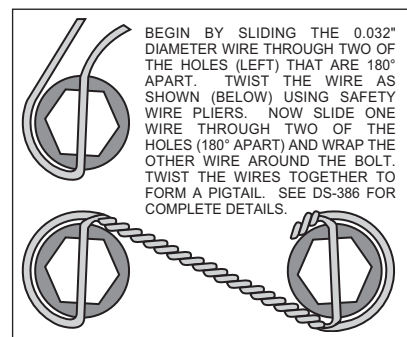

Figure 3. Safety Wire Diagram
- Pack the large inner bearing cone (5) with high temperature disc brake bearing grease (available from your local auto parts store) and install into the backside of the hub (4).
- Install the grease seal (6) by pressing into the backside of the hub (4).
- Attach rotor adapter (7) to rotor (8) using six bolts (9). Torque bolts (9) to 180 in-lb. Safety wire bolts (9) using standard 0.032 inch diameter stainless steel safety wire as shown in Figure 3. Please refer to Wilwood's data sheet DS-386 (available at [www.wilwood.org/ds386.pdf](http://www.wilwood.org/ds386.pdf)) for complete safety wire installation instructions. **NOTE:** The flat side of the rotor (8) lugs face toward the rotor adapter (7) with the dished side of the rotor adapter (7) facing away from the rotor (8).
- Mount the adapter/rotor assembly (7 and 8) to the hub (4) using six flat washers (10) and six bolts (11). Torque bolts (11) to 22 ft-lb. Safety wire bolts (11).
- Pack the small outer bearing cone (12) with high temperature disc brake bearing grease. Lightly coat the spindle bearing surfaces with bearing grease. Slide the hub/rotor assembly (4 and 8) with outer bearing cone (12) onto the spindle. Secure using spindle washer (13), existing adjusting nut and nut locking device.